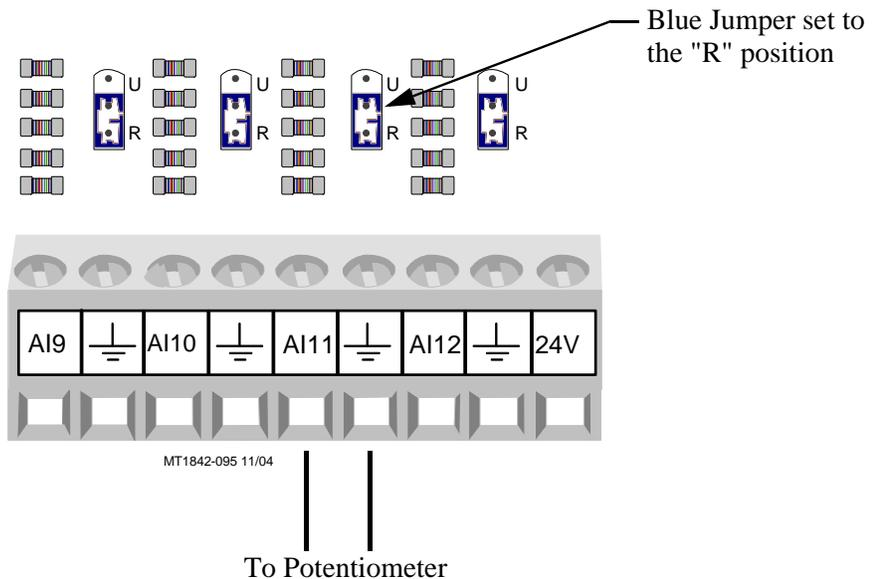

Figure 93. Potentiometer Wiring
If natural ventilation is being used, the Potentiometer(s) that are attached to either the main curtain machine(s) (Internal Potentiometer), or the main curtain cables (External Potentiometer) need to be wired to the Chore-Tronics® 2 I/O Board. The Potentiometers need to be connected using the same Twisted Pair Wire that is used for the Temperature Sensors and follows the same wiring rules. Each Potentiometer needs to be wired to one of the Analog Input (AI) Terminals on the IO board. Make sure that whichever AI Input the Potentiometer is connected to that the Blue Jumper above the Input is set to "R" (See Figure 93). To connect the sensor wire to the Potentiometer itself, please see Chore-Time instruction manual MV1251 for internal Potentiometer wiring, or MV1566 for external Potentiometer wiring.